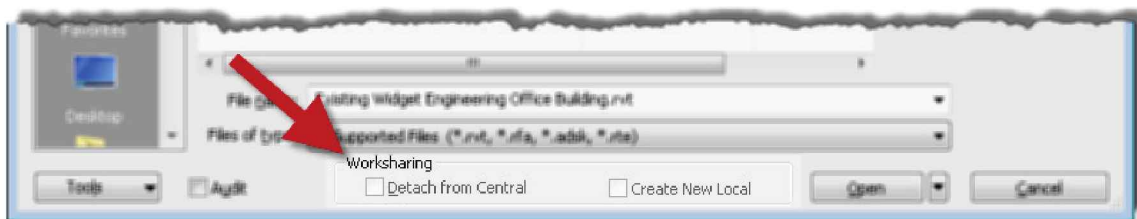

FIGURE 16-4.1 Worksharing options in the Open dialog
- b. While in the **Open** dialog, notice the Worksharing options at the bottom—they are grayed out because the selected file does not have Worksharing enabled (Figure 16-4.1).